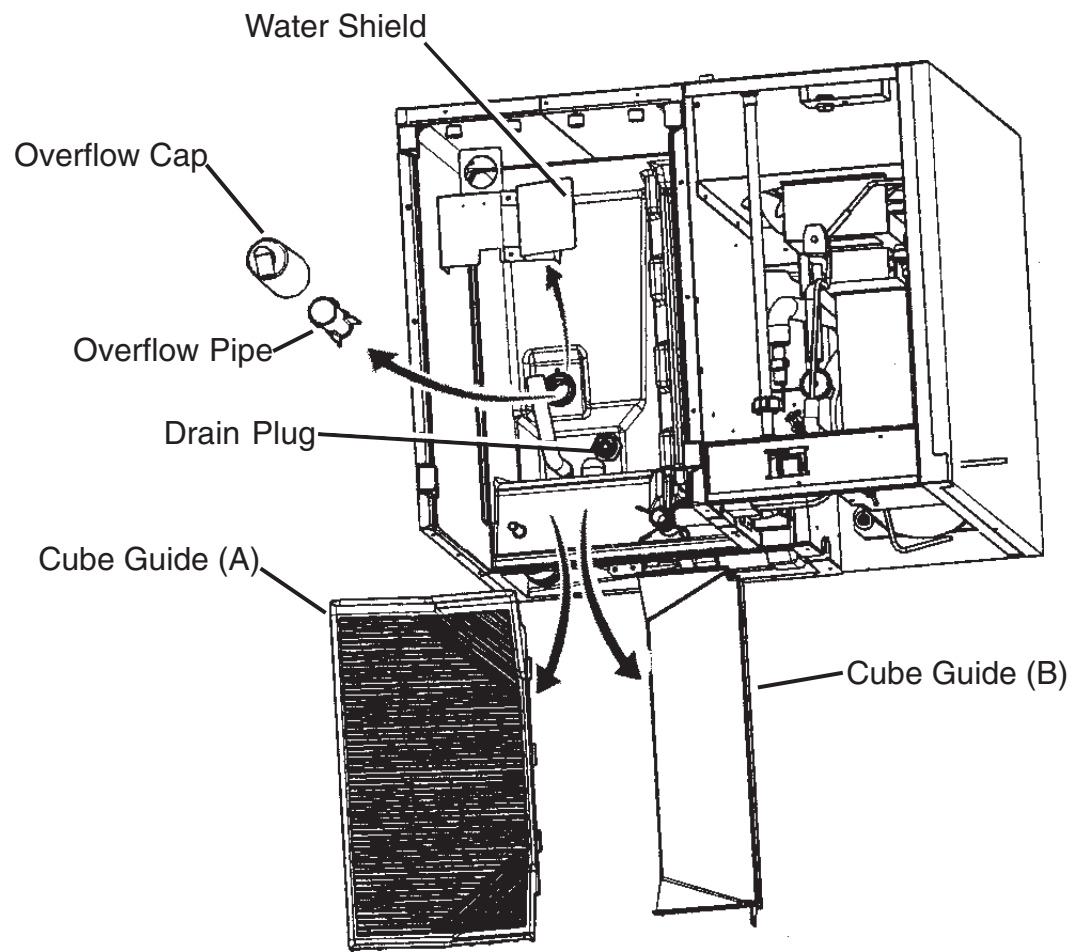

Fig. 5
- 3) Remove the insulation panel by removing thumbscrew, lifting up the panel slightly and pulling it toward you. Remove cube guide B by removing thumbscrew. Remove cube guide A. Remove overflow cap, overflow pipe, and water shield. See Fig. 5.